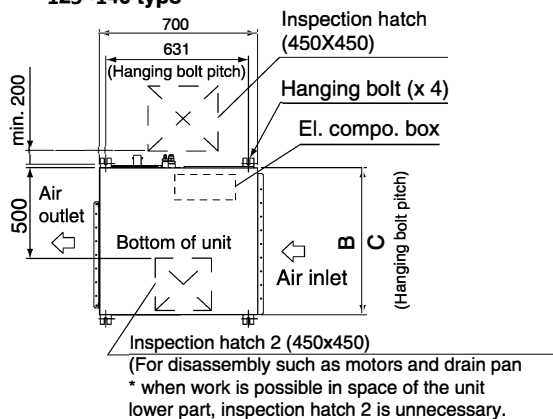

Fig.2-2
1. Inspection hatch 1 and 2 (450 × 450) for the el. compo. box and a minimum space of 300 mm at the bottom of the product. (Refer Fig. 2-2)